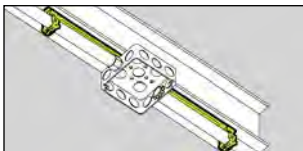

Figure 23 - BG-8-12-S18-U-2-4
(See Figures 23 - 25)
- (A) Securely Fastened.** ENT shall be securely fastened at intervals not exceeding 900 mm (3 ft). In addition, ENT shall be securely fastened in place within 900 mm (3 ft) of each outlet box, device box, junction box, cabinet, or fitting where it terminates. (See Figures 23 - 25)